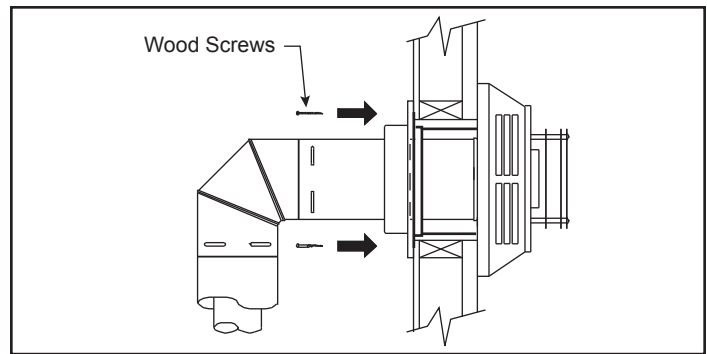

Figure 30
Step 7 - Slide the wall thimble cover up to the wall surface and attach to the wall with screws provided, Figure 30. Apply optional decorative brass trim to wall thimble cover if desired.